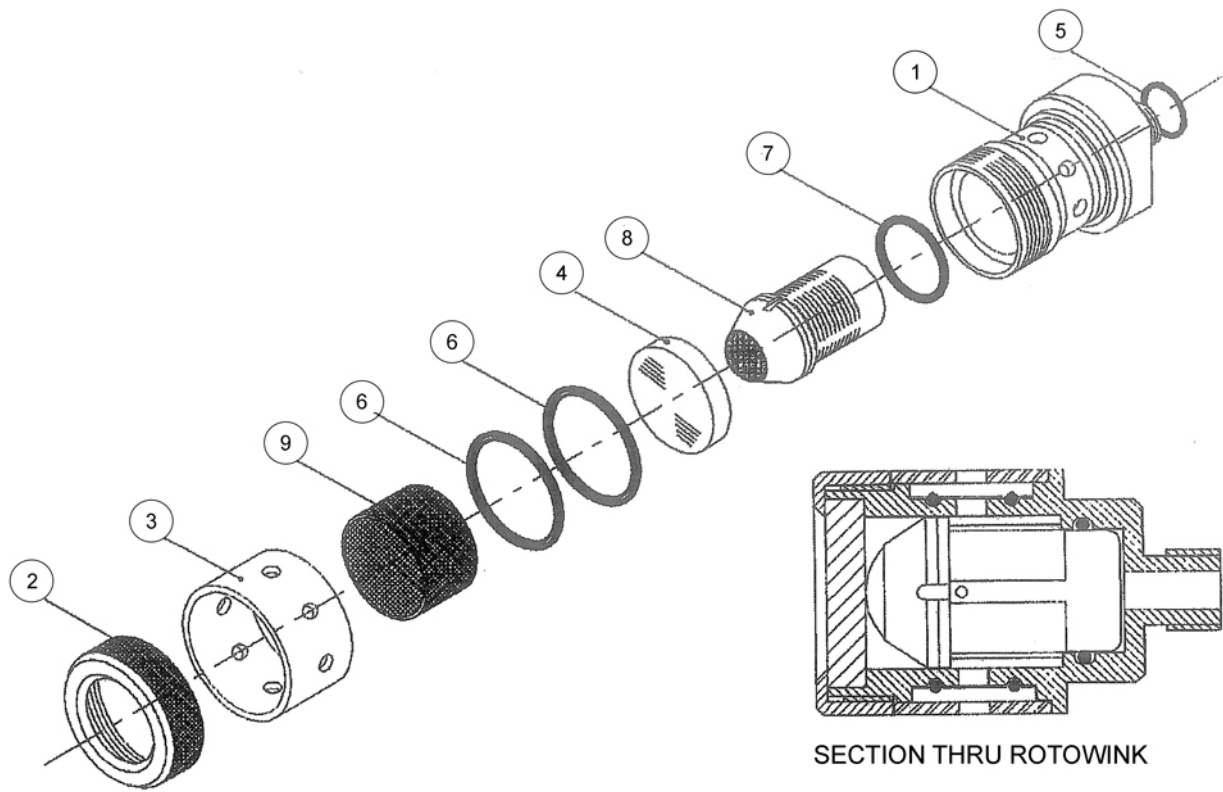

Fig 4.4 Monthly Maintenance Over Pressure Indicator Type 2
3. For the overpressure indicator Type 2, which is shown in Fig 4.4, proceed as follows:
- a. Remove the top cap (Fig 4.4, Item 2) using pliers.